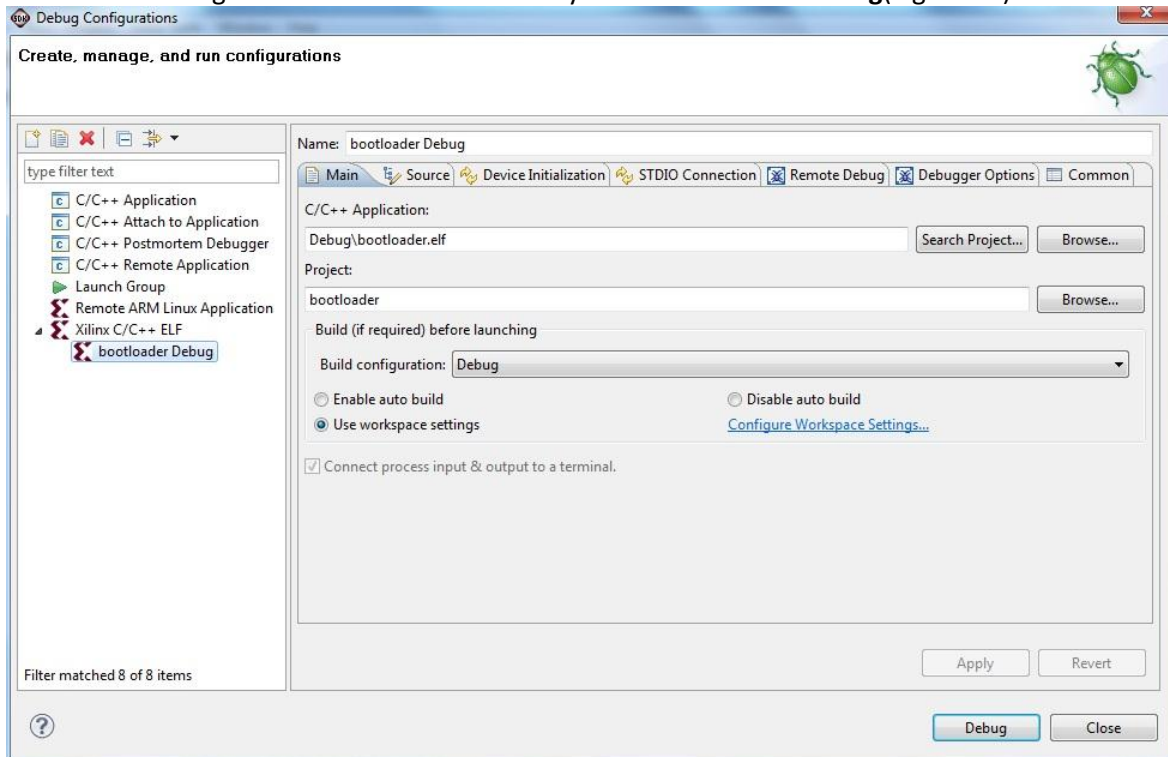

Figure 10
c. The configuration name is automatically set to **bootloader Debug**(Figure 10).